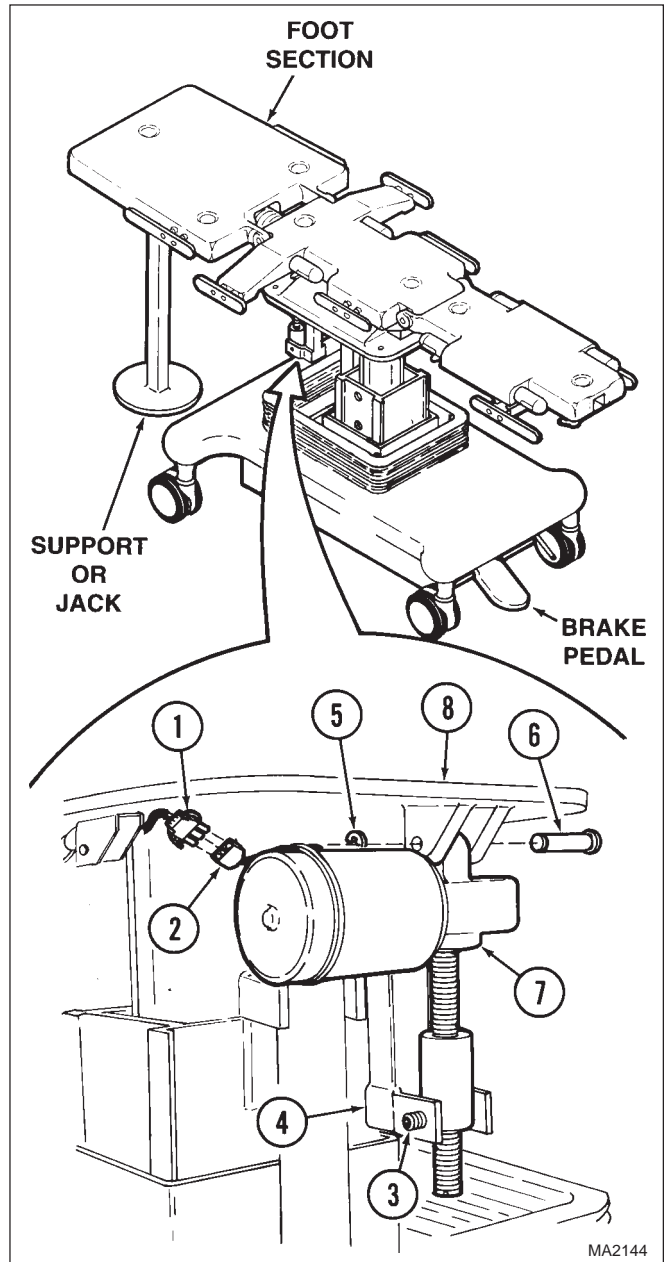

Figure 4-18. Trendelenburg Actuator Removal / Installation
- (1) Depress the brake pedal to apply the brakes. See Figure 4-18.
- (2) Operate the surgery table to move the foot section of the table top to a horizontal position.
- (3) Support the foot end of the table top by positioning a support or jack under the foot section of the table top. See Figure 4-18.
- (4) Disconnect electrical power from surgery table.
- (5) Lower bellows assembly (Refer to para 4-3).
- (6) Disconnect wire harness (1, Figure 4-18) from trendelenburg actuator wire harness (2).
- (1) Install trendelenburg actuator (7, Figure 4-18) on trendelenburg plate (8) and secure with clevis pin (6) and two E-rings (5).
- (2) Coat threads of two pivot screws (3) with permanent thread locking adhesive (Loctite 262).